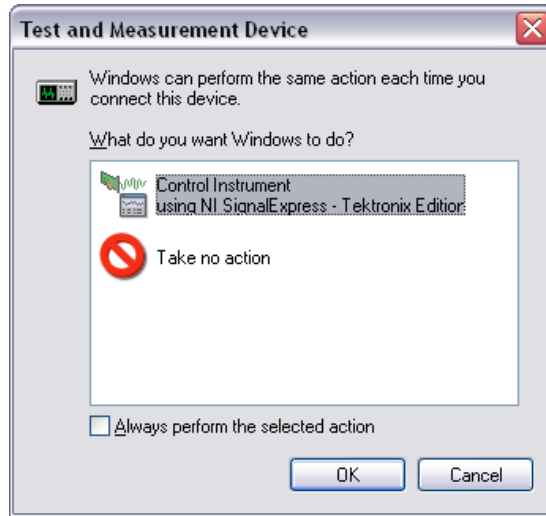

Figure 3-2. USB Plug-and-Play Dialog Box
4. Windows prompts you with a dialog box, as shown in Figure 3-2, indicating that the Tektronix DPO4000 series oscilloscope has been detected and prompts for the action to take. If **Control Instrument using NI SignalExpress - Tektronix Edition** is not selected, click **Control Instrument using NI SignalExpress - Tektronix Edition** and then click the **OK** button.